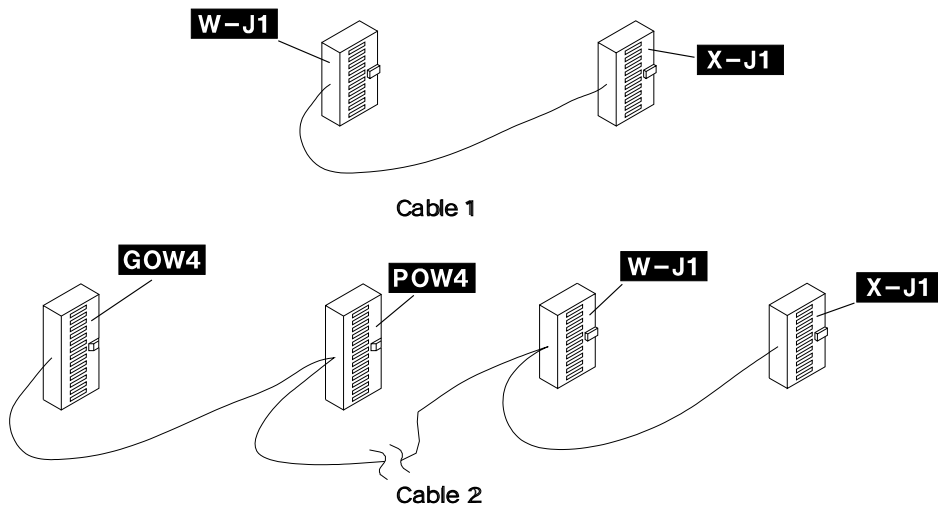

Figure 4-25. DICO Cables
- Step 3. ____ Determine the type of the LAB1 board. The first LAB in the machine at location 01G-A1 can either be a TSST or TSSB type. A LAB type TSSB can be identified by the presence of a board address card in 01G-A1-B2. This is a small single-position wide card. If a four-wide card or no card is present, then the board is a TSST type. If you have a **TSSB** board obtain the DICO **able 1** PN 43G3180, for a TSST board obtain **able 2** PN 43G3181 (see Figure 4-25).